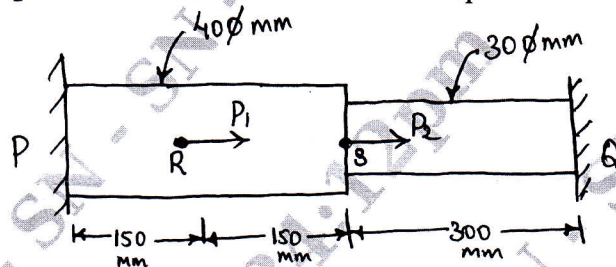

Fig.Q.2(c)
- c. A stepped bar of steel, held between two supports as shown in Fig.Q.2(c), is subjected to loads  $P_1 = 80\text{kN}$  and  $P_2 = 60\text{kN}$ . Find the reactions developed at ends 'P' and 'Q'. (08 Marks)